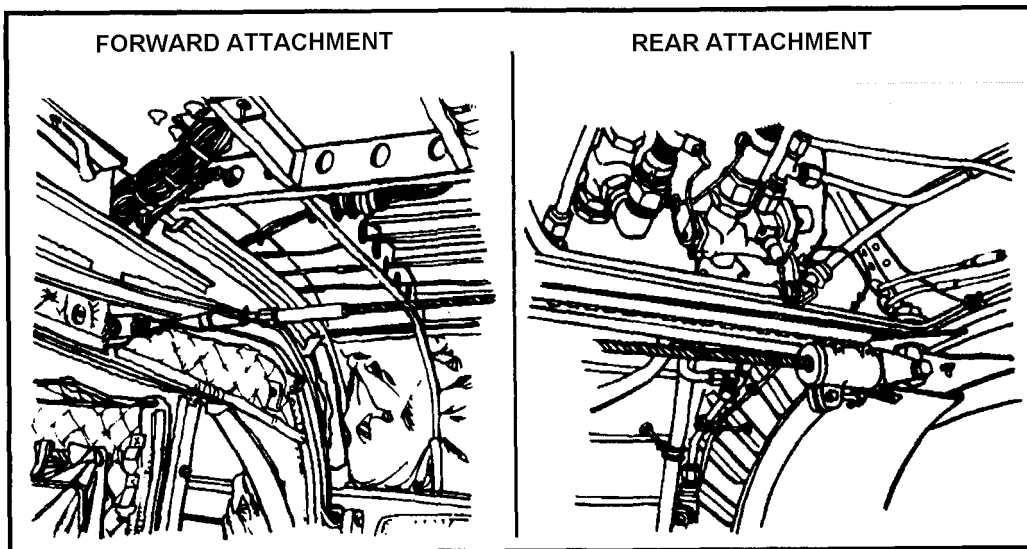

Figure 17-19. CH-47 anchor line cable attachment.
- (1) Install safety belts for each parachutist and extend all the way out to ensure positive hookup while seated.
- (2) Secure the permanently installed anchor line cable to the attachment points on the starboard side of the aircraft (Figure 17-19).